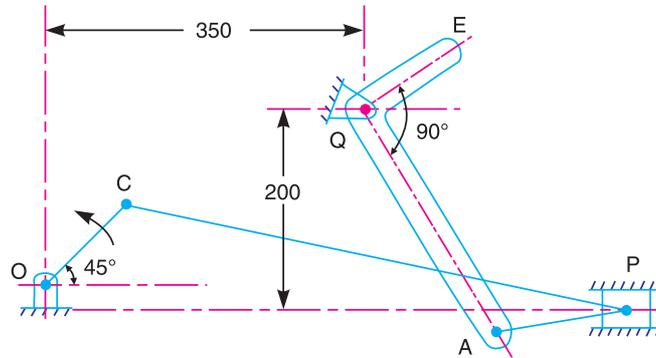

Fig. 7.15. All dimensions in mm.
**Example 7.6.** In a mechanism as shown in Fig. 7.15, the various dimensions are :  $OC = 125$  mm ;  $CP = 500$  mm ;  $PA = 125$  mm ;  $AQ = 250$  mm and  $QE = 125$  mm.